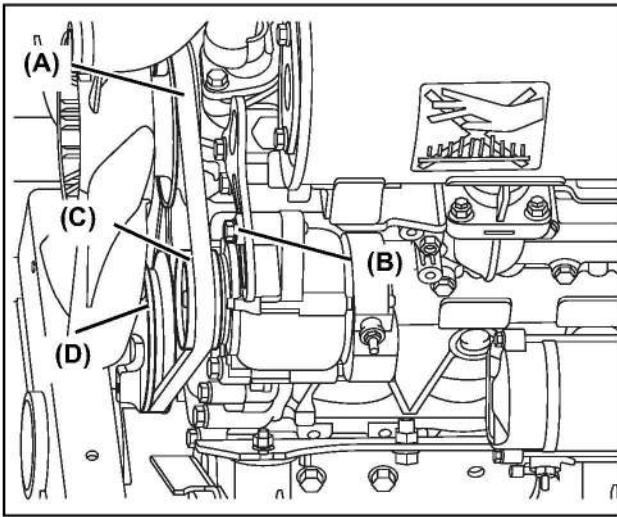

Fig 14-35
- (A) Adjusting bolt
- (B) Mounting bolt
- (C) Fixing bolt
10. Remove the alternator/fan belt from the alternator sheave (Fig 14-35, C), fan sheave and crankshaft sheave (Fig 14-35, D).